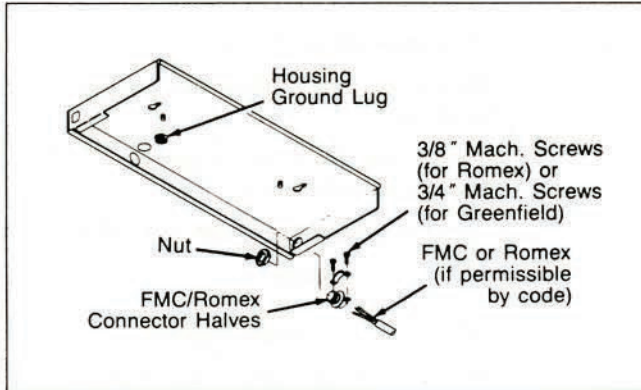

Figure 7.
- Using the FMC/Romex connector supplied (where applicable), secure the proper length power supply wiring to the housing as shown in Figure 7. The power supply wiring must be installed per local and national electrical codes.